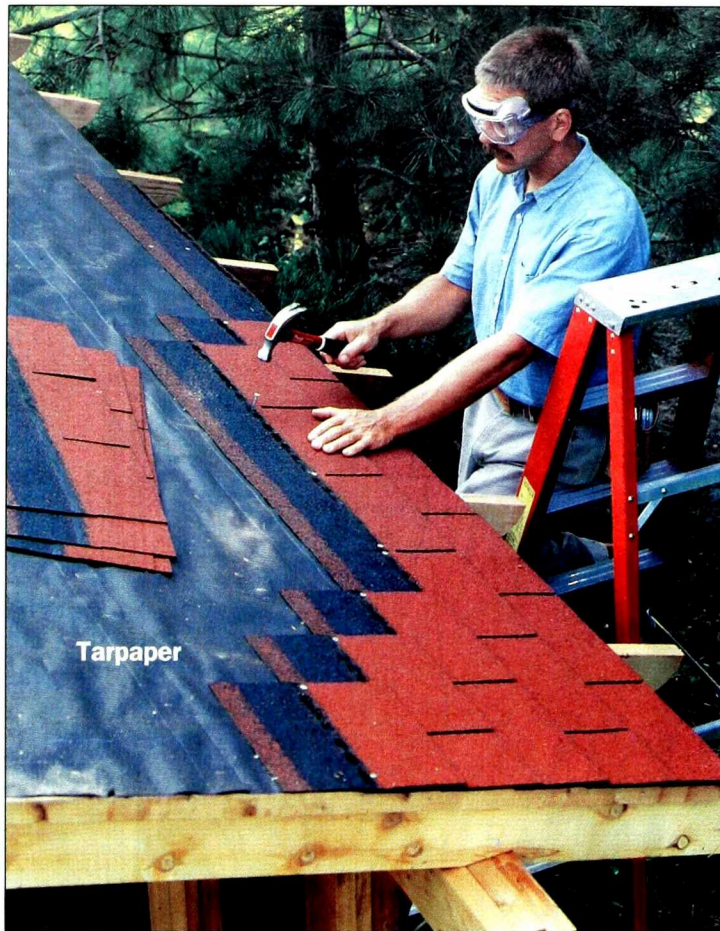

Figure 15: Nail shingles over tarpaper. Stagger the shingles and fasten them according to manufacturer's directions on the wrapper.
- As always, use caution when working on a roof. Staple 15-pound roofing felt (tarpaper) over the entire roof right away to protect your project. Overlap horizontal seams at least 3 inches and end-to-end seams by 6 inches (Figure 15).